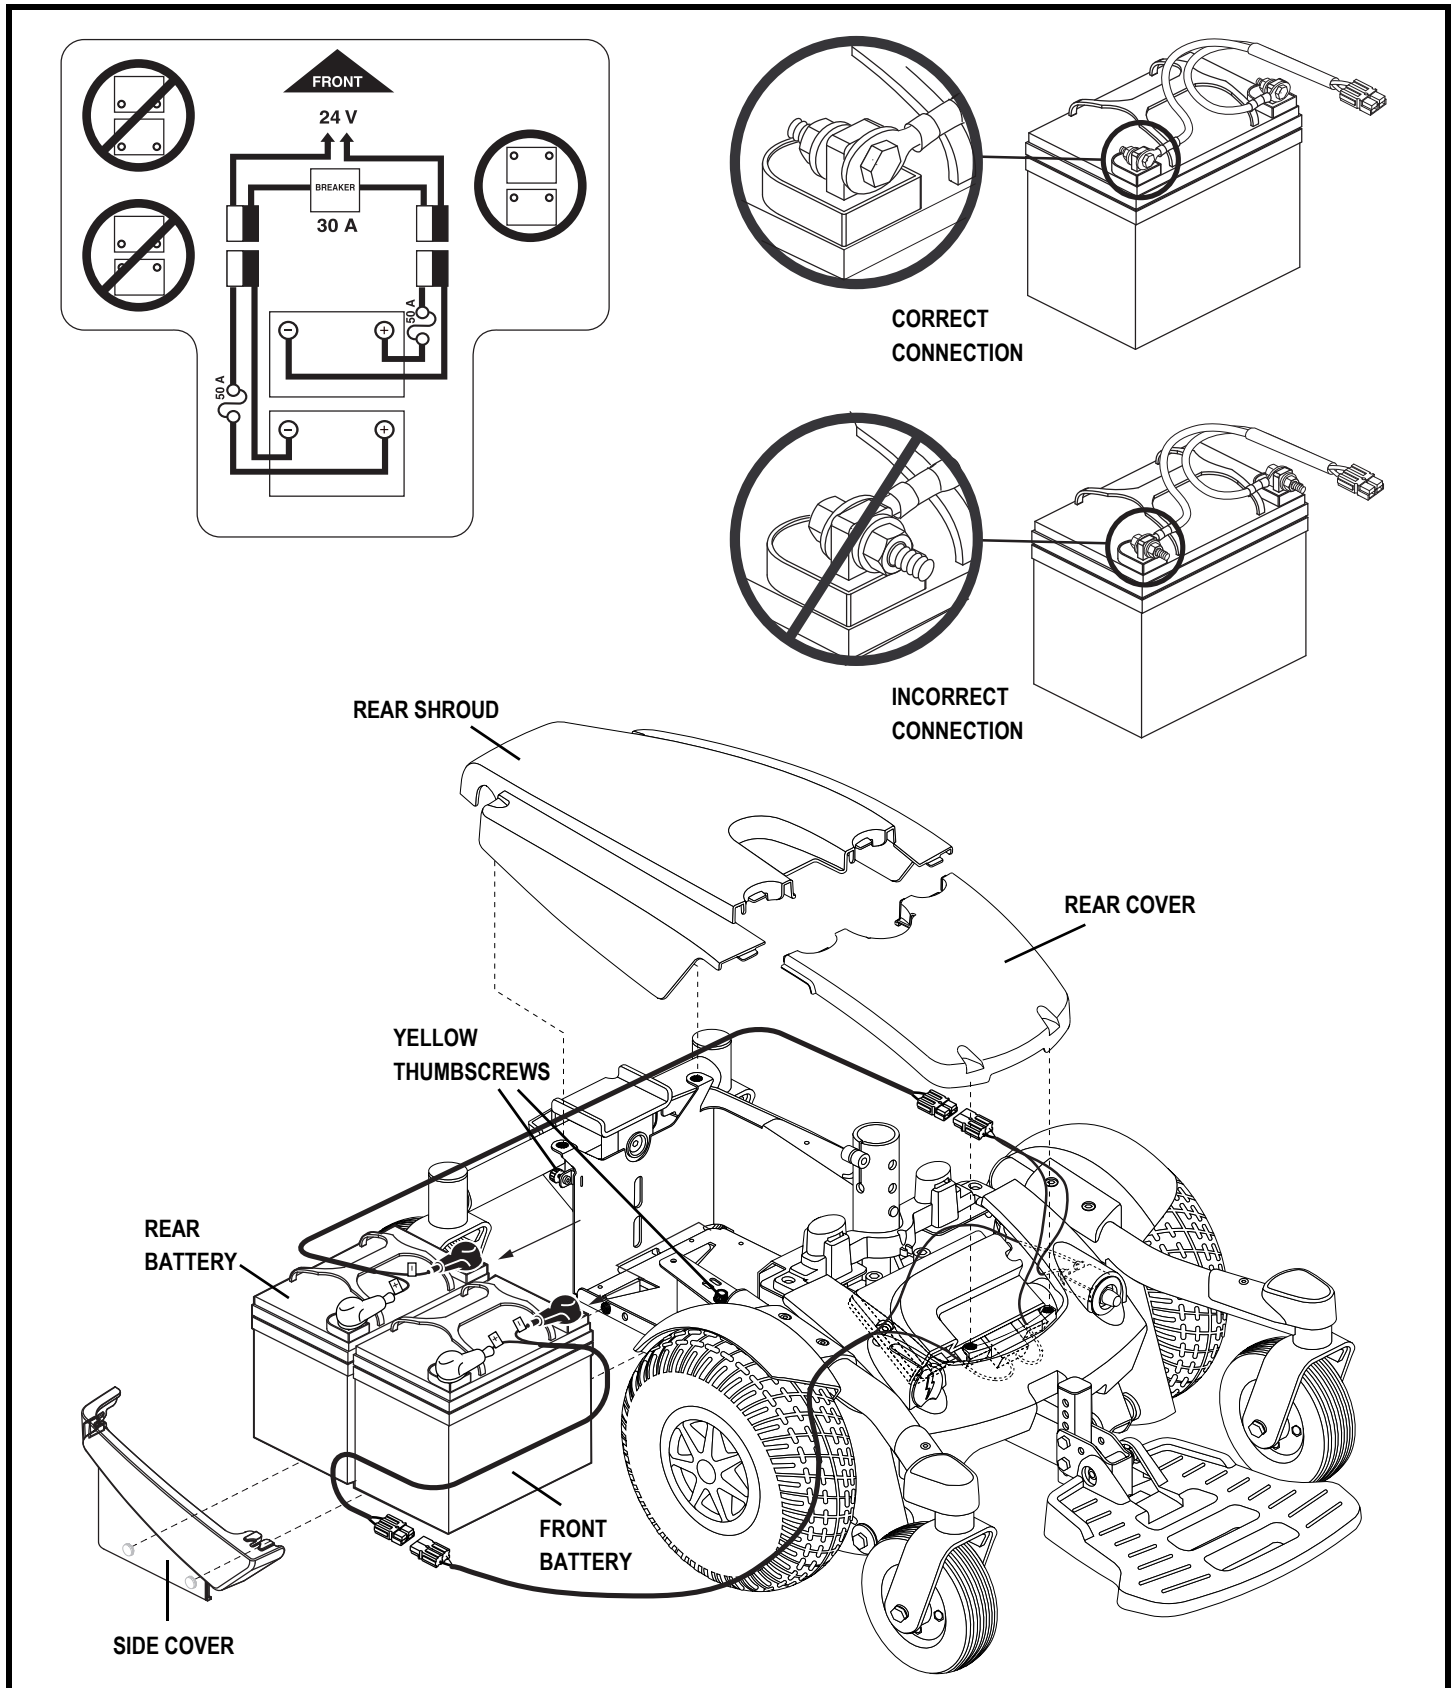

Figure 32. Battery Installation (Seat Removed for Clarity - Select 6 Shown)
3. Remove the rear shroud. See figure 32.
5. Disconnect the rear battery harness from the power base. See figure 32.
8. Disconnect the front battery harness from the power base. See figure 32.
10. Remove the battery harnesses from the old batteries and install them onto the new batteries. Make sure that the hardware is facing the correct direction. See figure 32.
11. Place the front battery into the power base. Make sure that the terminals are facing the front of the power base. See figure 32.
14. Place the rear battery onto the power base. Make sure that the terminals are facing the front of the power base. See figure 32.